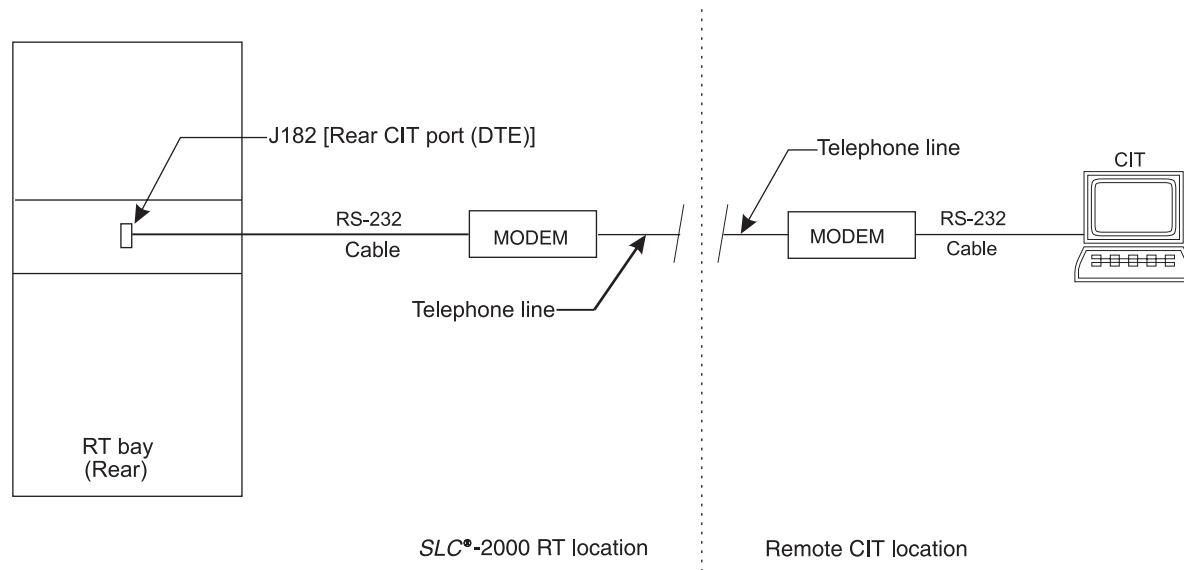

Figure 1 – Remote CIT Access Equipment Arrangement and Connection
General: This procedure may be used to connect modems and a craft interface terminal (CIT) to the *SLC*[®]-2000 Access System for use in provisioning the system and downloading software from a remote location. This procedure must be performed at both the *SLC*-2000 remote terminal (RT) location and remote CIT location to set the parameters of modems and terminal. Figure 1 is a diagram of the equipment and connections that are described in this procedure.